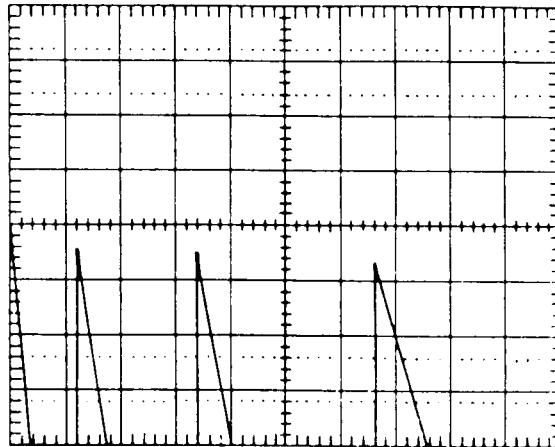

Figure 10. Oscilloscope display.
- (27) Disconnect multimeter from TI. Connect **SWEEP OUTPUT** to oscilloscope **CH2** input.
- (28) Connect oscilloscope CH1 input to A6TP8. Press **INSTR PRESET** key.
- (29) Set oscilloscope as listed in (a) through (d) below:
- (30) Set oscilloscope for an X verses Y function operation and adjust oscilloscope controls as required to obtain a display as shown in figure 10.